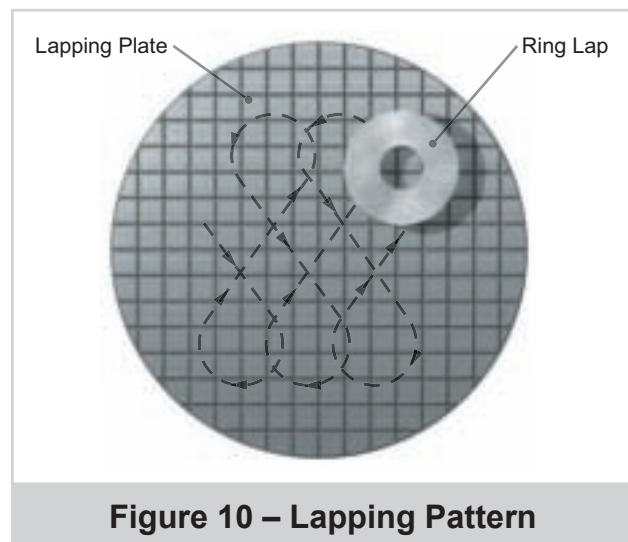

Figure 10 – Lapping Pattern
- (ii) Always use a fresh lap. If signs of wearing (out of flatness) are evident, recondition the lap. Reconditioning of laps is accomplished by lapping them on a flat lapping plate. The lapping should be done with a figure-eight motion as indicated in Figure 10. To assure the best results when lapping seats, the laps should be reconditioned after each usage.
- (vi) Lap, using an eccentric, or figure-eight motion, in all directions, while at the same time, applying uniform pressure and rotating the lap slowly (see Figure 10).